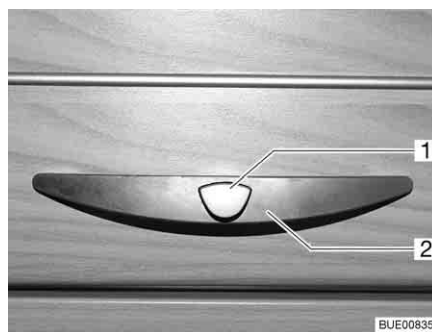
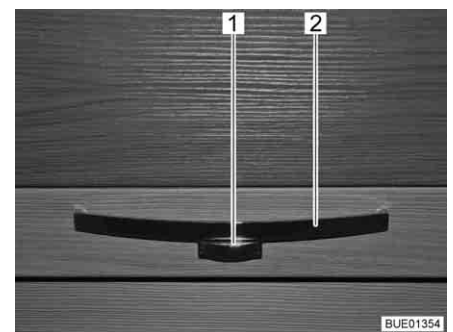

Fig. 56 Furniture flap with handle (example)
Fig. 57 Furniture flap with handle (example)
- Press the release knob (Fig. 56,1 or Fig. 57,1) on the handle (Fig. 56,2 or Fig. 57,2) and hold it down.